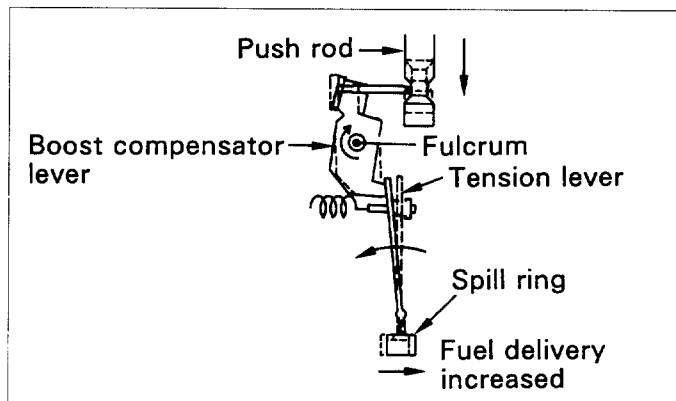

Fig.9-38 When boost pressure is increasing
- ① Pressure in the upper side of the diaphragm chamber becomes high, and moves the diaphragm downward by overcoming the spring force. Then the diaphragm moves to the position where the forces of pressure and spring are balanced.
- ② Also the push rod moves downward together with the diaphragm.
- ③ At this time, the lever connecting pin moves to the right and along the tapered shape toward the slenderest position.
- ④ The tension lever presses the connecting pin to the push rod through the boost compensator lever. Therefore, when the push rod moves from high position to the lower position, the connecting pin moves to the right side as shown in Fig.9-38.
- ⑤ As a result, the top of the tension lever moves to the left, moving the spill ring to more fuel side.
- ① As pressure inside the diaphragm increases further, the push rod further moves downwards causing the connecting pin's contact point to shift to the top of the push rod tapered portion.
- ② As a result, the connecting pin slides to the left and the boost compensator therefore rotates counter-clockwise. This causes the tension lever to rotate clockwise, making the spill ring move in the direction by which delivery quantity is reduced.